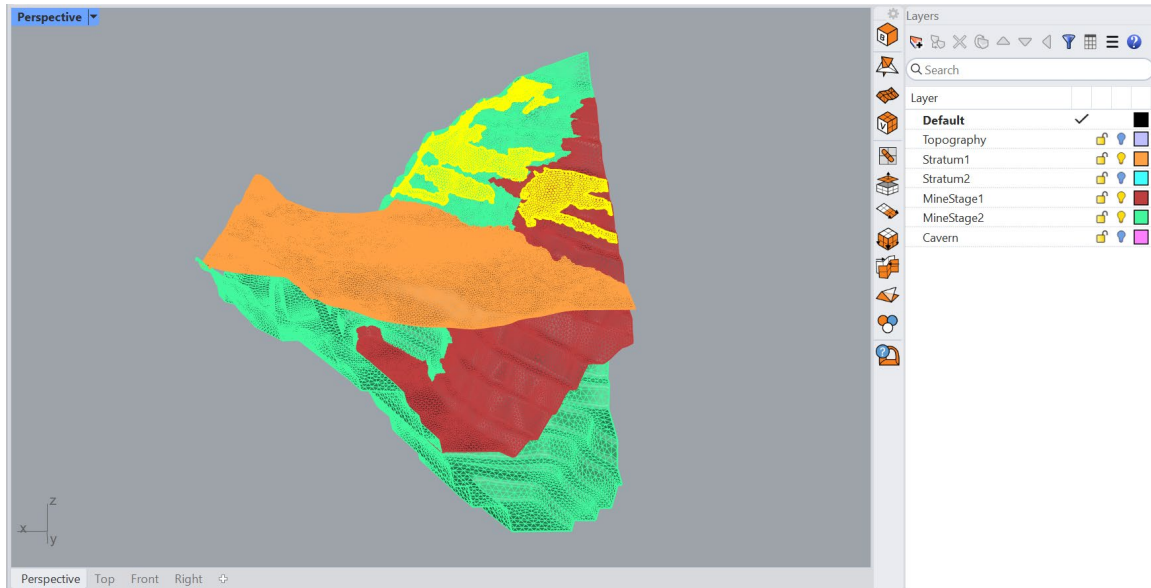

Figure 97: Result of “Stratum1” mesh collapse onto “MineStage1” and “MineStage2”.
12. As “Stratum1” mesh overlaps with the mining meshes, the former needs to be collapsed to the latter ones. Select “Stratum1” mesh and click on **GCollapse** icon () in *Griddle*’s toolbar. Use the following parameters: *Distance* = 3, *IntersectAndTrim* = Yes, and keep all other options at the defaults. Then select both “MineStage1” and “MineStage2” as the base meshes. The result of the operation is shown in Figure 97.
When multiple bases are selected, **GCollapse** collapses target mesh faces on the nearest surface (mesh piece) formed by the union of the base meshes. Figure 97 shows that the collapsed “Stratum1” now consists of 3 pieces located on different sides of “MineStage1” and “MineStage2”. Only the largest piece is of interest, as the other two “Stratum1” pieces form small and probably artificial volumes. Use **_SplitDisjointMesh** command to split “Stratum1” mesh and delete the smaller pieces (highlighted in Figure 97).